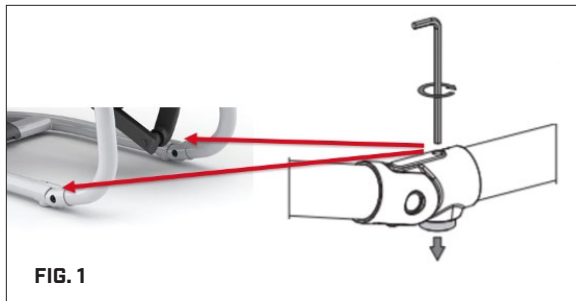

FIG. 1
1. On the right side of the treadmill, just in front of the rear foot, you will find two leveling shims. Remove one or both (Fig. 1).
1. For Performance & 7, 5 Series frames, remove the dust tray and control zone (Fig. 1).
Start with the leveling feet all the way up (turn counterclockwise), so the frame is resting on the floor. If the unit is not level, adjust the leveling feet as needed using a 6 mm Allen socket and wrench (Fig. 1).
Start with the leveling feet all the way up (turn counterclockwise), so the frame is resting on the floor. If the unit is not level at that point, adjust the leveling feet as needed using a 6 mm Allen socket and wrench (Fig. 1).